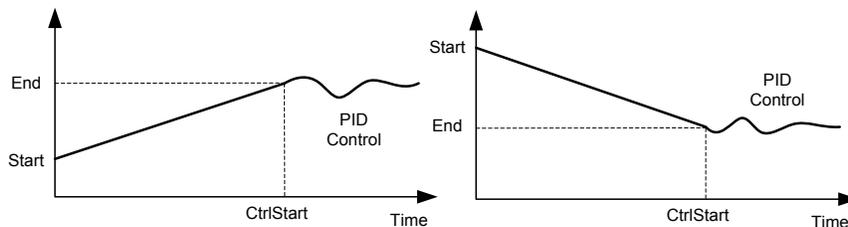

Figure 6-15 Controlled Start Process
The slow start function shown in Figure 6-15 allows a controlled ramping (up or down) process before dynamic PID control starts, providing flexibility for the start of pressure control. When the Start value is set to zero, this becomes a soft start process that can be used to prevent turbulence, reducing the particles in the process chamber during the initial pump down process.
- CtrlStart: The CtrlStart value is the time period (in seconds) over which the valve drive signal (thus, the valve position) or the MFC flow drive signal goes from the Start to the End. See Figure 6-15..